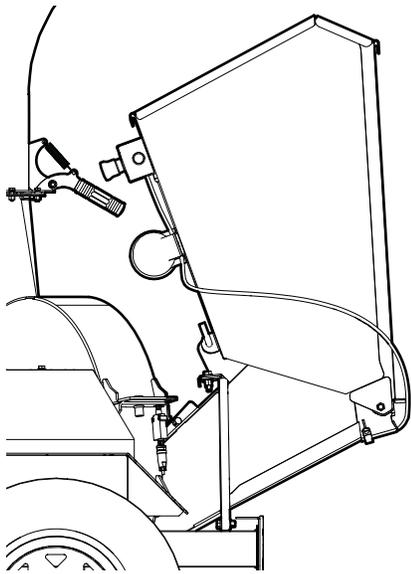

Figure 17—Closed position
2. Tilt the chipper hopper to the closed position. See *Figure 17*.